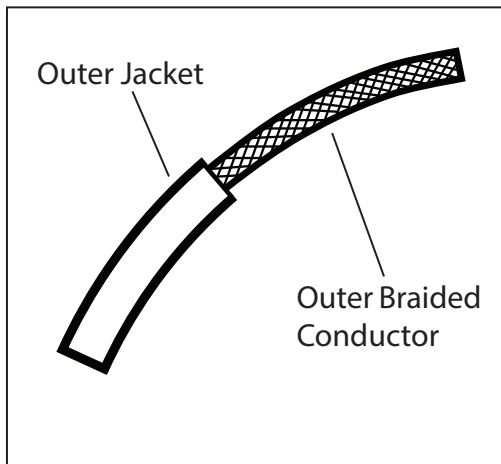

Fig. 1
to lengthen, push in the plunger while pulling down the cable, release the plunger to lock. Slide cord rings (P) as close to canopy (C) and fixture (N) as possible. (Figure 1)
7. Adjust hanging clips (Q) by loosening clip screw (R) with included Allen key as needed.
8. Attach glass (S) to fixture (N). Secure with set screw (T).
9. Restore power to the outlet box (A).
(Figure 1)
1. Make a 1" slice along the length of the cord's outer jacket (Fig. 1). **CAUTION: Do not cut through the outer braided conductor.**
2. Carefully strip the outer jacket of the cord and keep the outer braided conductors intact (Fig. 1).